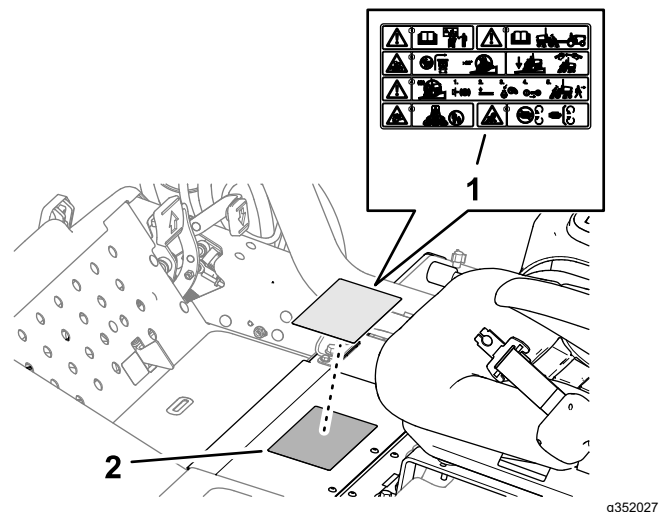

Figure 23
1. Wipe clean the standard warning decal with alcohol, and allow the frame to dry (Figure 23).
2. Remove the backing and apply the CE warning decal (Part No. 121-7928) over the standard warning decal as shown in Figure 23.